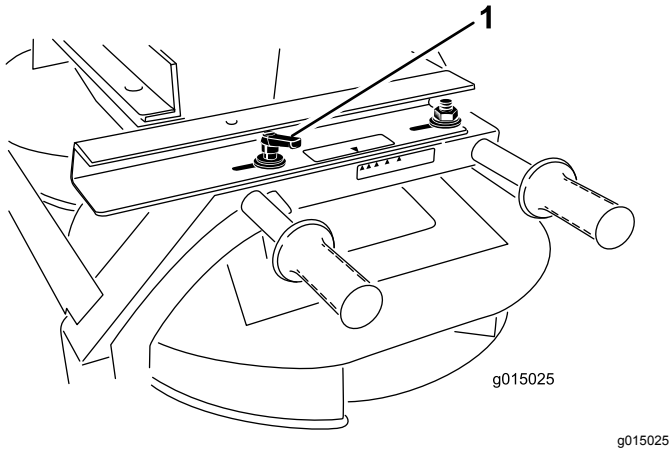

Figure 43
1. Loosen the handle on each side of the twin spinner (Figure 43).